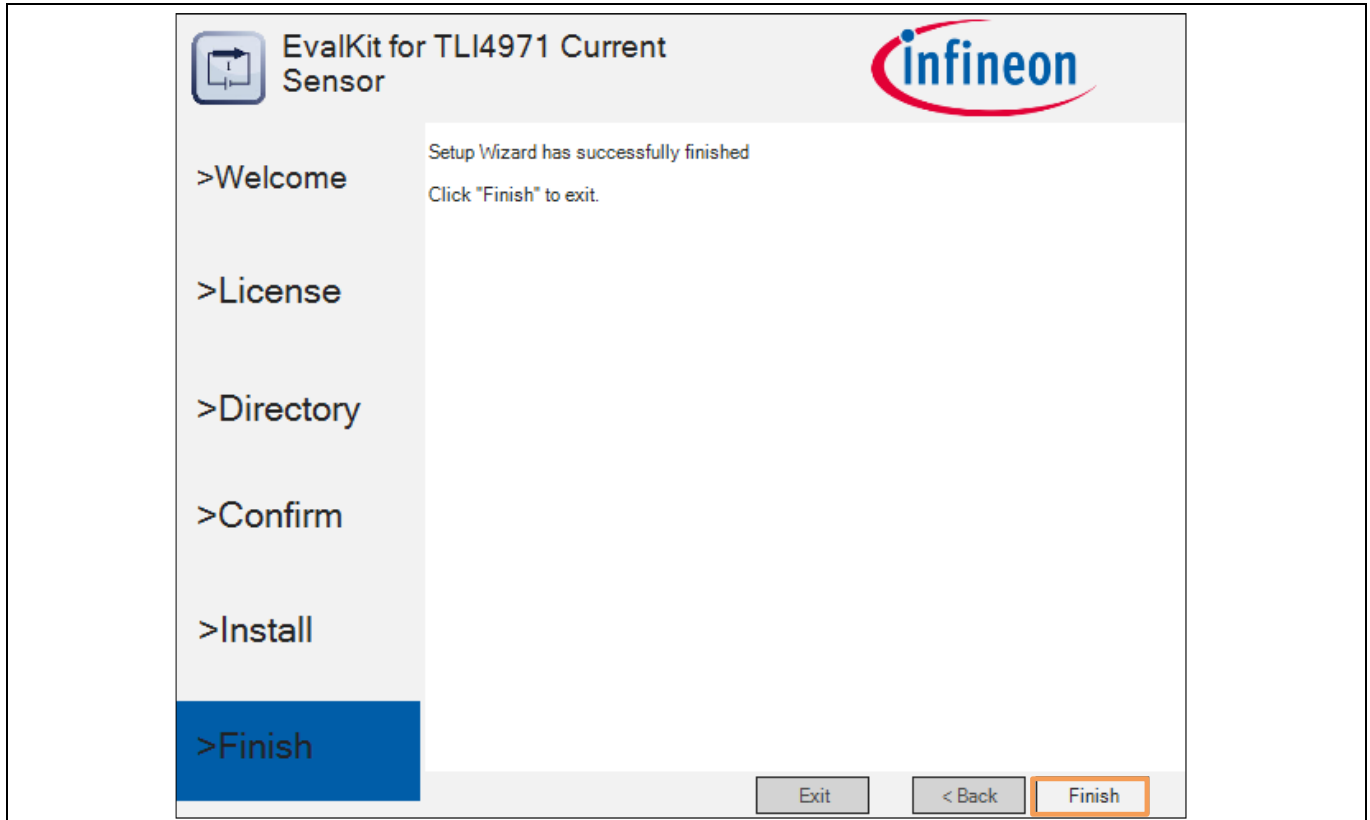

Figure 26 EvalKit Installer 1.0.2 –Installation Completed
- Click “**Finish**” button which has shown in the below Figure 26 to complete the Evalkit software GUI installation.